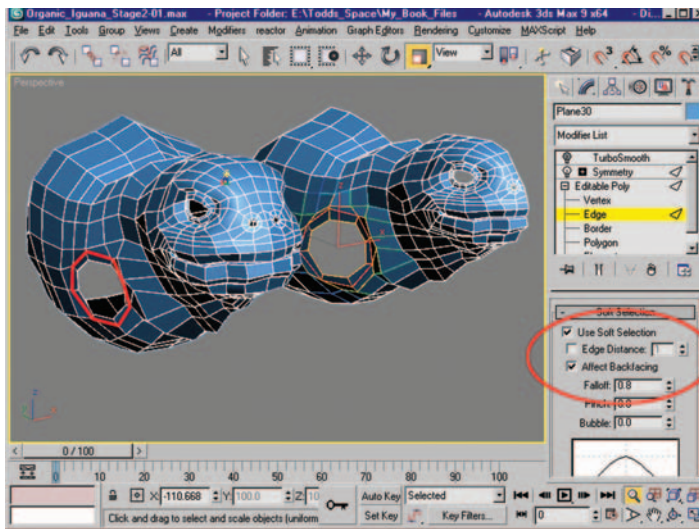

Figure 9.45 Edge selection (left) and same selection with Soft Selection active (right). The right image is shown after scaling.
6. Select the edges shown in Figure 9.45 (left). Activate Soft Selection and adjust the falloff to match Figure 9.45 (right). Use Scale to make the opening and surrounding area (due to Soft Selection) a little larger. This will allow for a little more leg mass when we model the leg.